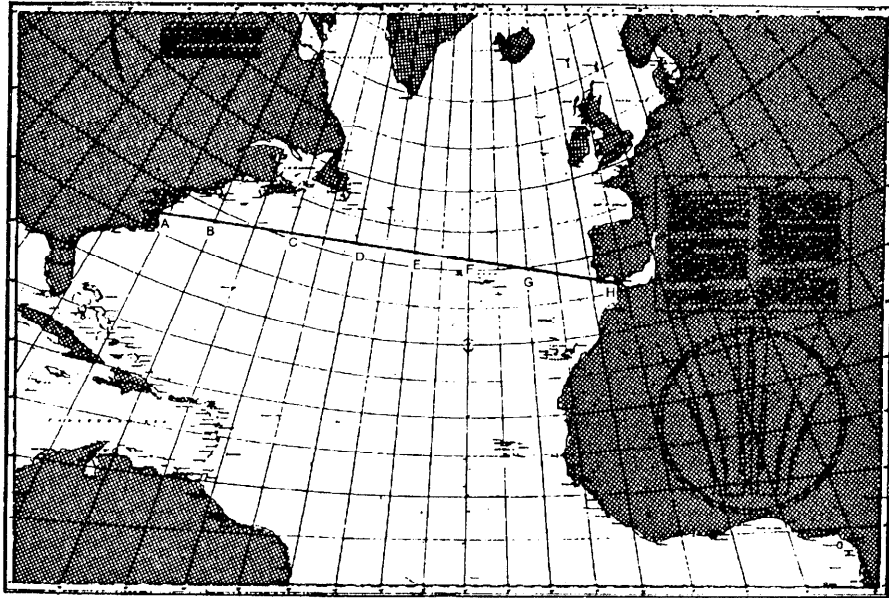

Figure 12-1. Great-circle route; Norfolk to Gibraltar.
2.	Draw a line between the two points (see fig. 12-1).
4.	Select convenient points to use to transfer the track to small scale Mercator charts. Normally these points should be about 300 nmi apart; refer again to figure 12-1.